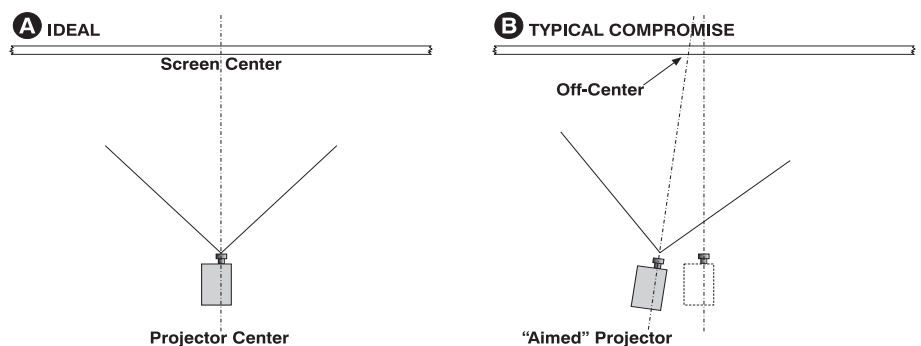

Figure 2-2 Position the Projector
1. Position the projector at an appropriate throw distance (projector-to-screen distance) and vertical position. Ideally, center the projector with the theatre screen. If space is limited, aim the projector slightly off-center as shown in **Figure 2-2**. This increases side keystoneing, but reduces the horizontal lens offset required.